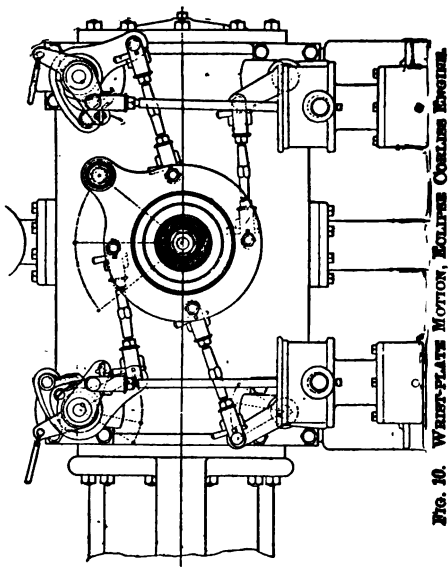

FIG. 10. WRIST-PLATE MOTION, ELLIPSE COMPRESSION ENGINE
A. The wrist-plate motion, Fig. 10, is of the most familiar Corliss form known.